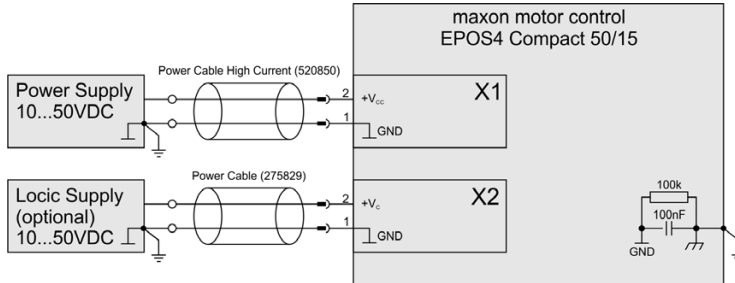

Figure 5-62 Power & logic supply
**Power supply & optional logic supply** . . . . .Figure 5-62
**Power supply & optional logic supply** ..... Figure 5-62